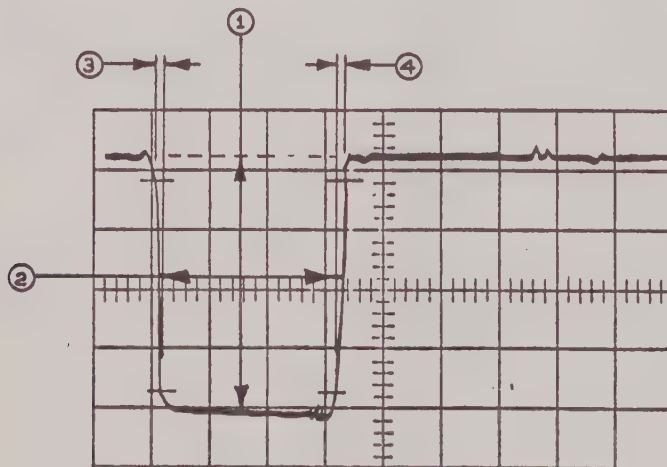

Figure 13: Transmit Word Sync
- k. Operate the Storage Oscilloscope's Trigger, storage, and position controls to obtain the waveform of Figure 13, after the Erase & Reset button has been momentarily pushed. Measurement ① should be between 4.5 and 5.5 cm (4.5 and 5.5 volts). Measurement ② should be between 3.0 and 3.5 cm (300 and 350 nsec). Measurements ③ and ④, taken at the 10% and 90% points should be less than 0.5 cm (50 nsec).
- l. Connect the alligator clip of the 100 Ω , 1% resistor between probe tip and ground connection. Measurement ①, from Figure 13, should be not less than 2.25 cm and 2.75 cm (2.25 and 2.75 volts).